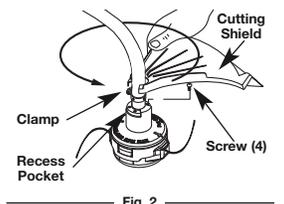

Fig. 2
3. Install the screws with a Phillips screwdriver (Fig. 2).